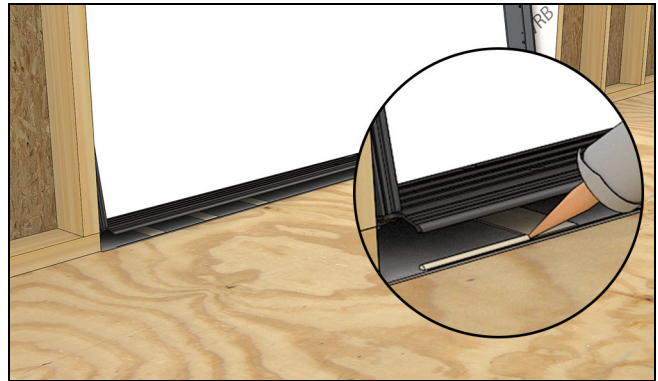
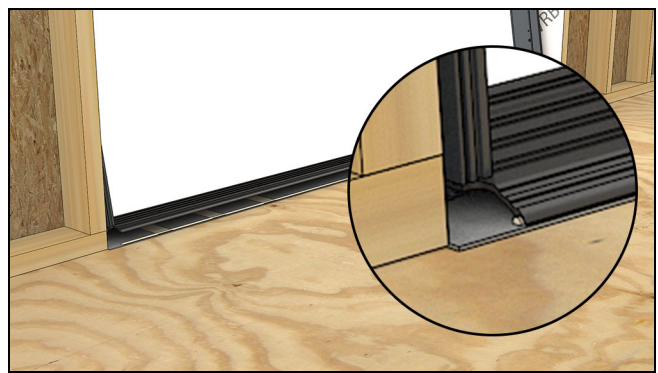

Figure 30
Figure 31
3. Tip the sill out and apply a bead of sealant on the exterior side of the line you just drew. Then tip the frame back into place. See Figure 30 and Figure 31.